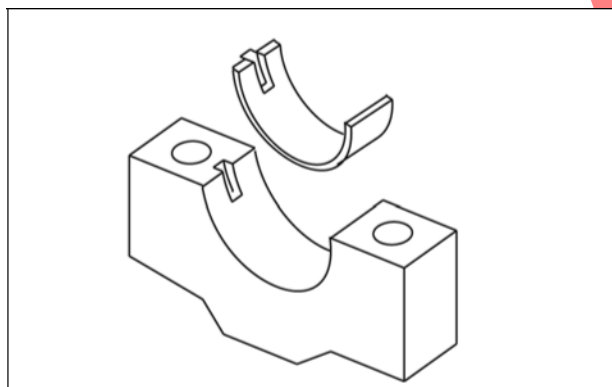

Figure 2
4. Install lower main bearings in bearing caps (Figure 2).